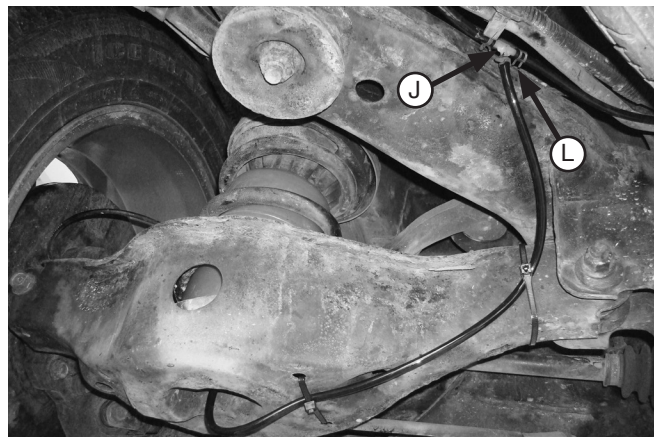

Fig. 9
9. Route the air line to the top, back side of the rear crossmember, then all the way over to the driver's (left) side above where the other air line is, above the lower control arm pivot point (Fig. 9). Secure the air line to the crossmember or wiring using the zip ties.
10. Per the *Installing the Air Lines* section, install a tee (J) at the upper portion of the crossmember (Fig. 9) using three air line clamps (L).